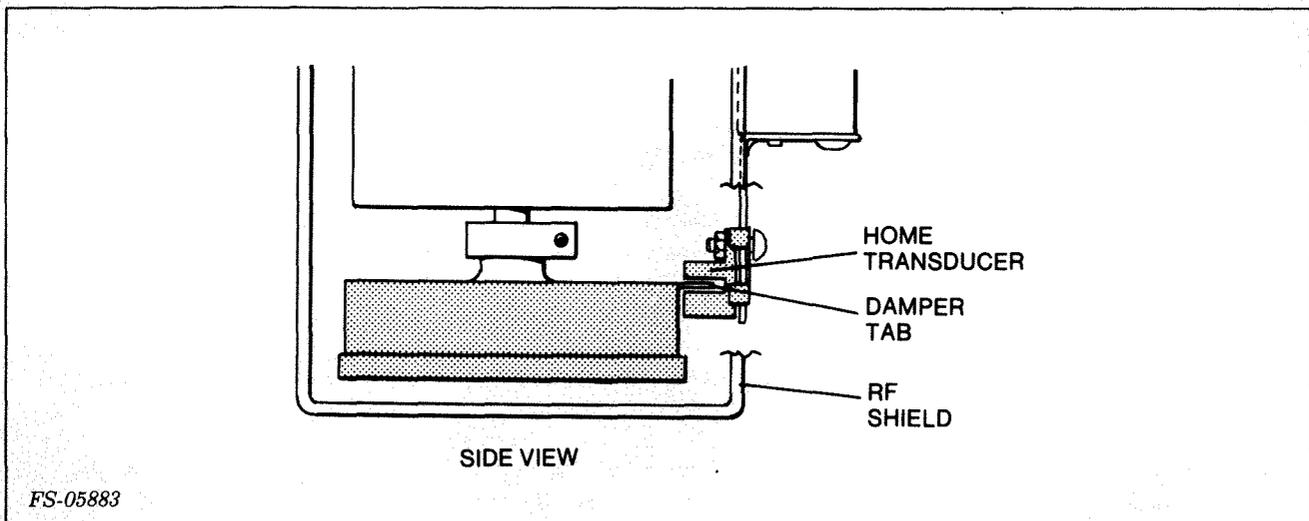

Figure 5-14. Home Transducer in Position
4. Move the home transducer away from the damper (see Figure 5-14).